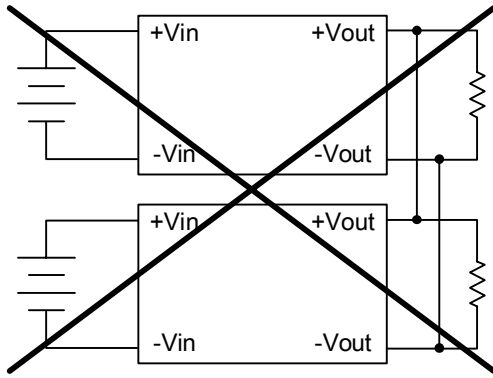

Fig.1 Parallel Connection
- The converter unit must be wired according to the measurement circuits given in the purchase specifications or catalog. Consult TDK concerning any other connection schemes in order to avoid possible damage. These converter units cannot be connected in parallel (Fig.1).